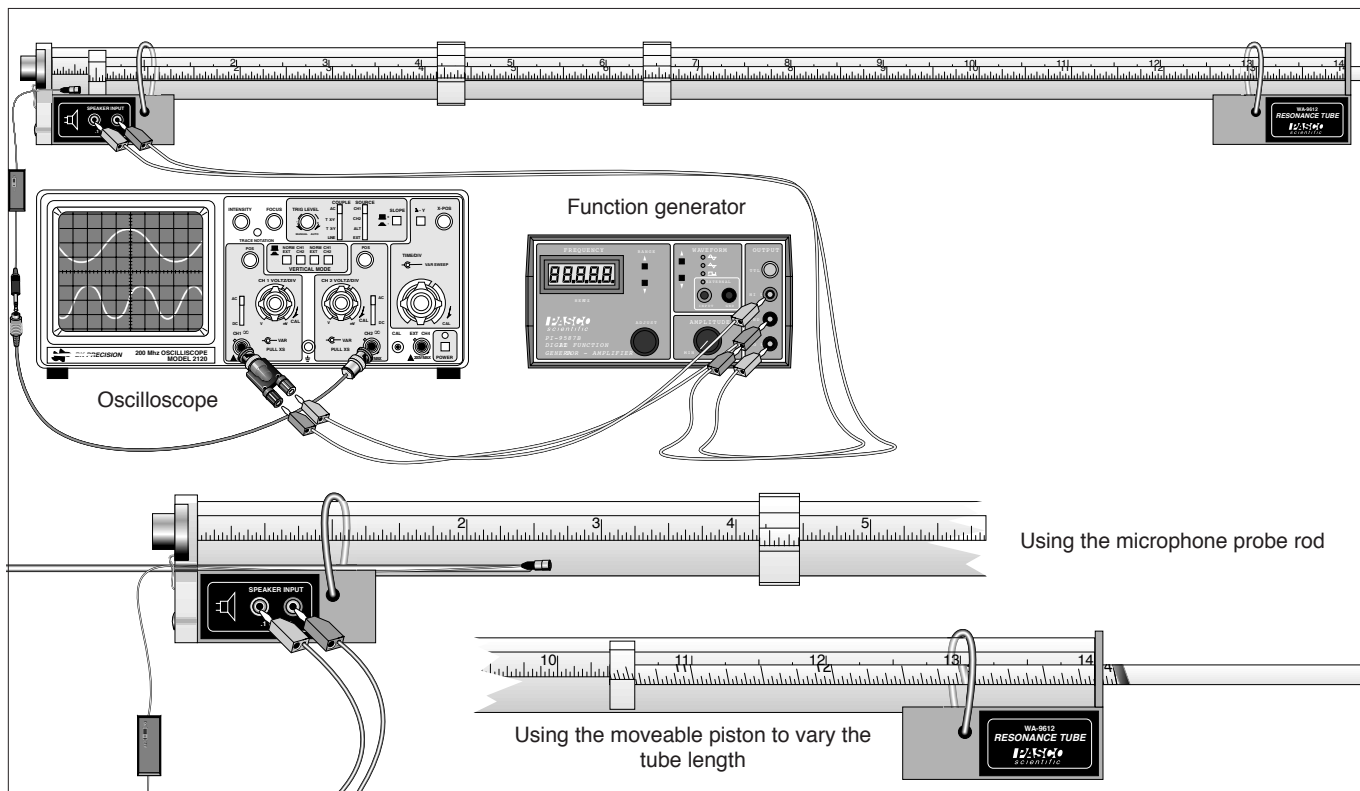

Figure 2 Equipment Setup
To set up the Resonance Tube (see Figure 2):
- ① Set up the equipment as shown in Figure 2. The microphone can be mounted in the microphone hole below the speaker, or, as shown in the lower insert, it can be taped to the end of the microphone probe rod and inserted through the mounting hole so that nodes and antinodes can be located within the tube. You can also vary the effective tube length by inserting the moveable piston as shown in the upper insert. The end of the piston rod that is outside the tube should be supported to avoid putting excessive strain on the piston.
- ② Set the frequency of the function generator to approximately 100 Hz, and the amplitude to zero, then turn it on. Slowly raise the amplitude until you hear a sound from the speaker.
- ③ Turn on the oscilloscope and switch on the battery powered amplifier. Set the sweep speed to approximately match the frequency of the signal generator and set the gain until you can clearly see the signal from the microphone. If you can't see the microphone signal, even at maximum gain, adjust the frequency of the signal generator until the sound from the speaker is a maximum. Then raise the amplitude of the signal generator until you can see the signal clearly on the oscilloscope.
- ④ You can now find resonant modes by adjusting the frequency of the sound waves or the length of the tube, and listening for a maximum sound and/or watching for a maximum signal on the oscilloscope.